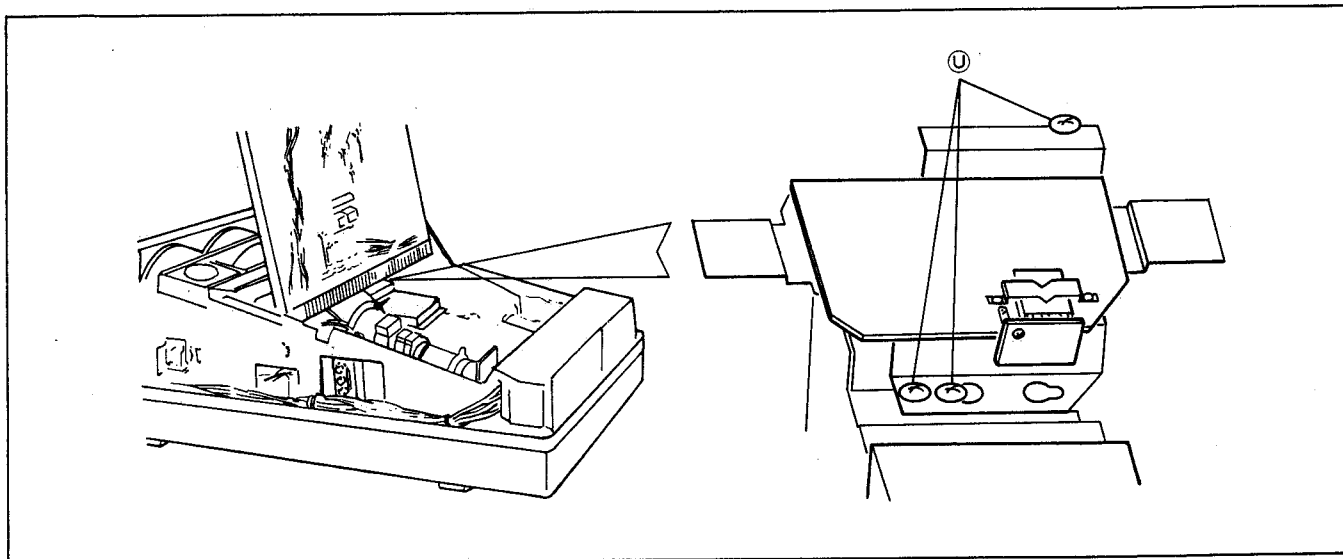

Fig. 17
- 3) Remove 3 screws ①, and remove the X-radiation shield cover as shown in Fig. 17.